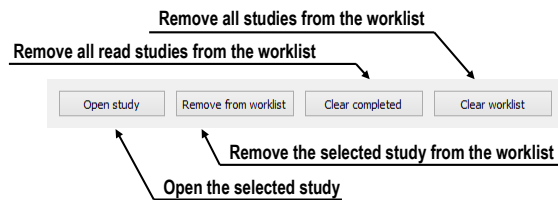

Figure 127 – Manage part of the Patient worklist tab
Your currently defined patient worklist is available at any time on the **Worklist** tab of the **Search studies** dialog. On the tab, you can select from the following operations (see Figure 127) pertaining to the patient worklist studies:
- Removing a selected study from the worklist (by clicking the **Remove** button, see Figure 127).